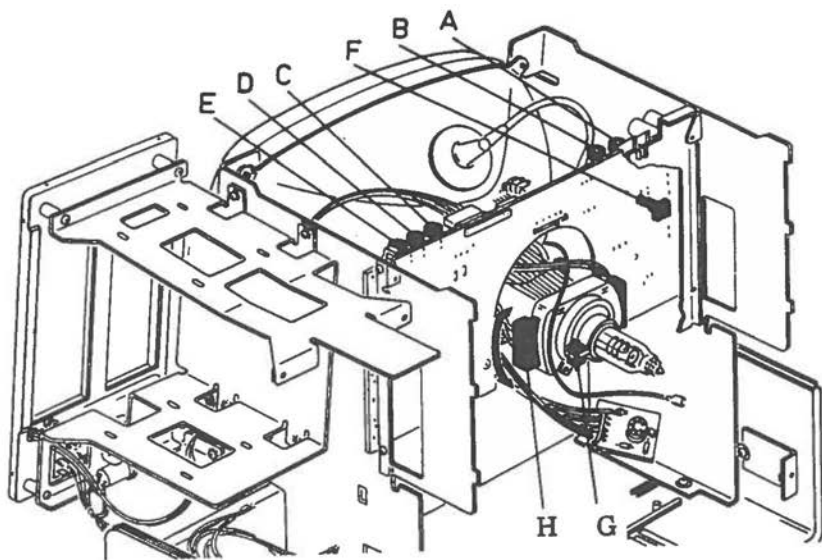

Figure 7-1 Positions of Adjustment Controls
The positions of the adjustment controls are shown in Figure 7-1.
Loosen the locking screw (G) and rotate the yoke (H) assembly, tighten the locking screw, see Figure 7-1.